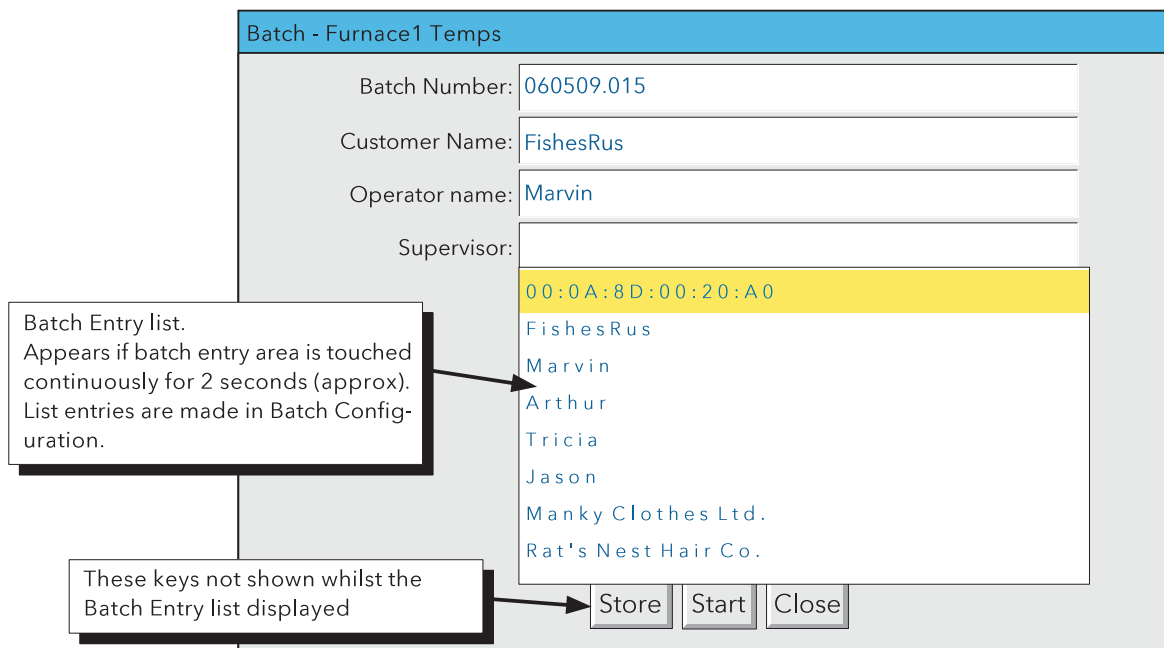

Figure 4.3.10f Batch values entry page
6. Operating 'OK' in the PASSED window causes the Batch entry page to appear, as shown in figure 4.3.10f, below.
Once all the checks have been successfully completed, a new display page appears (figure 4.3.10f), showing all the headings entered in Field 1 to Field 6 during configuration. If the Batch Fields entry is less than 6, then only the selected number appear (in our example, 4).